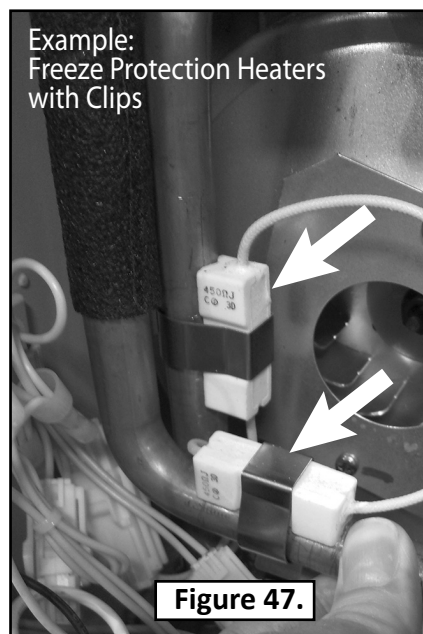

Figure 47.
See also Figure 47.
- Two (2) freeze protection heaters and clips; one is located on the outlet tube near the bottom and the other is located on the connection tube from the secondary heat exchanger. (See items 413 and 414 on page 70. See also Figure 47, page 47.)